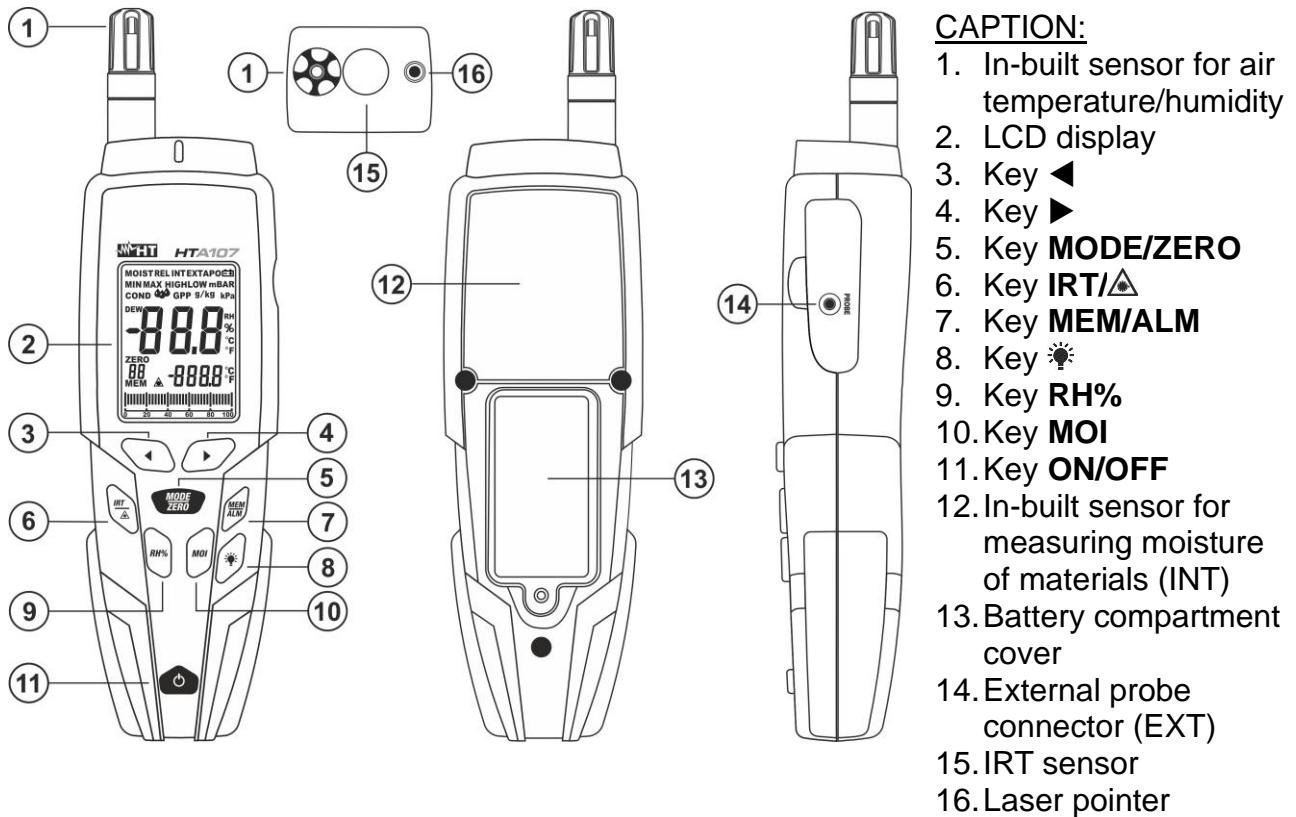

Fig. 1: Description of the instrument
- Activation of measurement of air humidity with in-built sensor (see Fig. 1 – part 1), whose value is shown on the main display
- Activation of moisture measurement of materials with in-built sensor “MOI INT” (see Fig. 1 – part 12) or with external probe “MOI EXT” (see Fig. 1 – part 14), whose value is shown on the main display